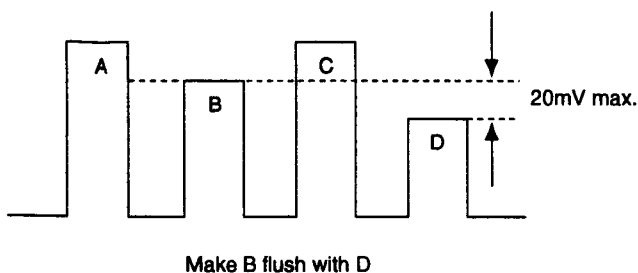

Fig. 5-12
3. Connect the probe of an oscilloscope to IC404 ④ PIN or TP402.
5. Adjust **SUB CHROMA NORMAL** so that the peaks of waveforms will be flush with each other as shown in Fig.5-12.
2. Input adjustment value 98 to **SUB CHROMA NORMAL**. (Fig.5-12)